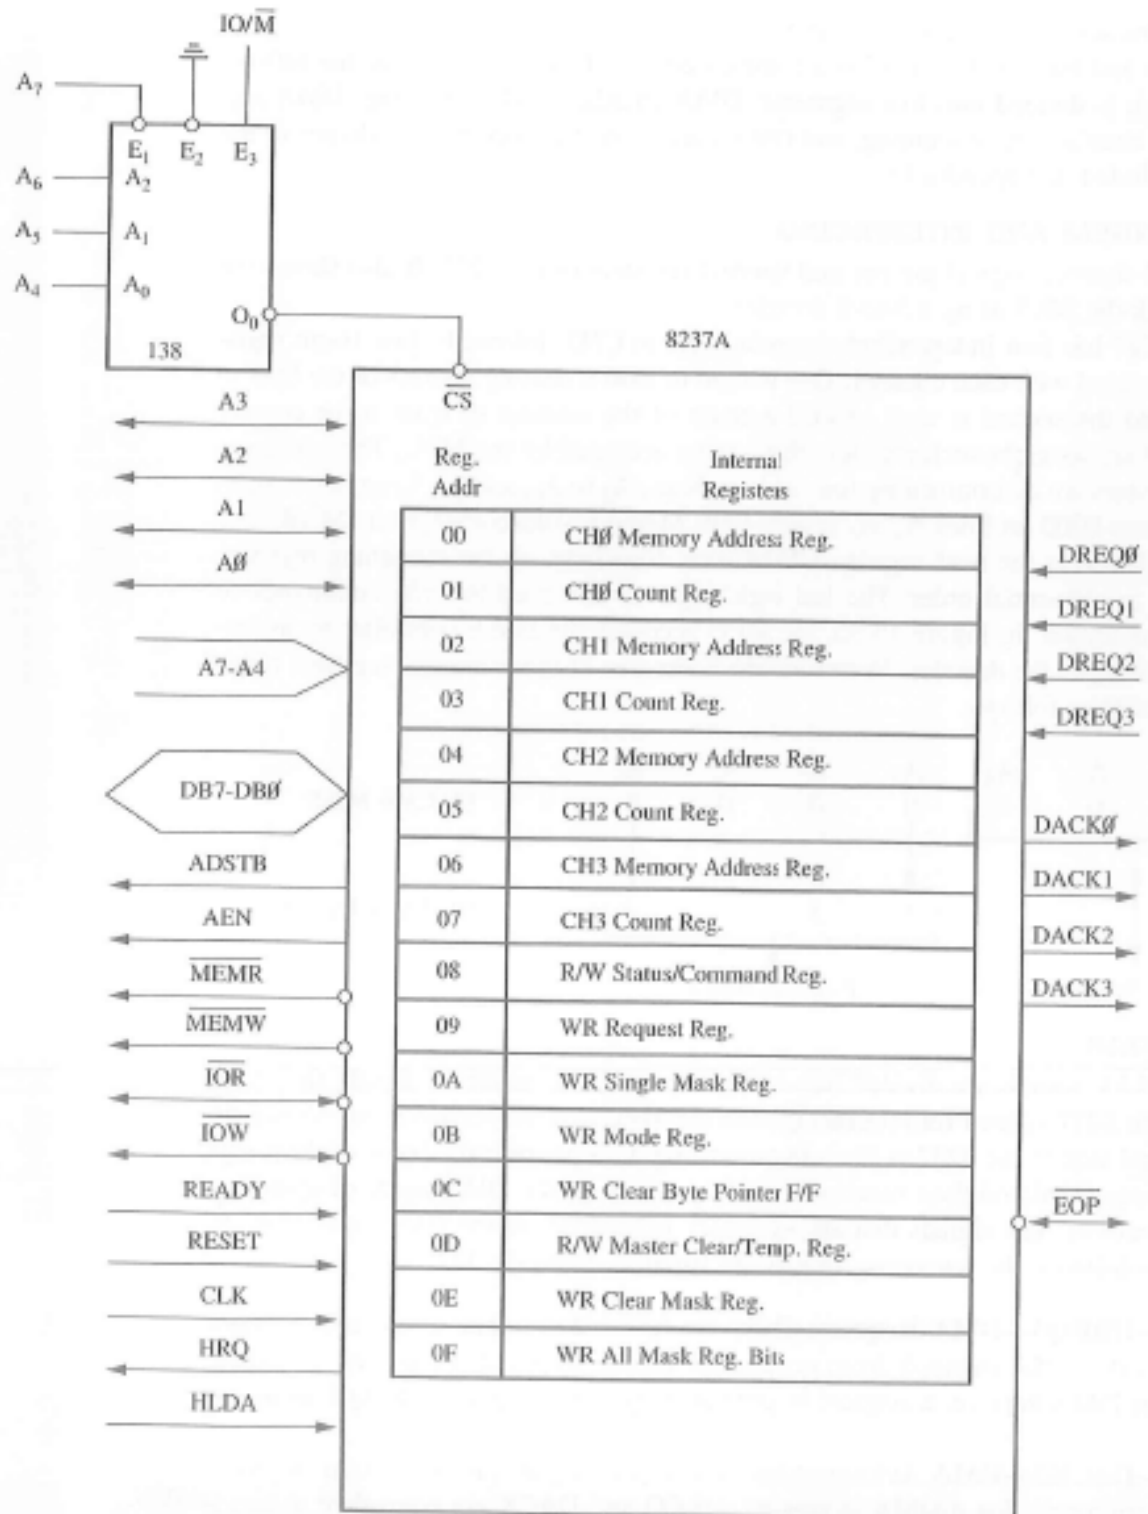

Figure 3.18 8237A – DMA Controller with Internal Registers
- ❖ Figure 3.18 shows a logical pin out and internal registers of the 8237.
- ❖ Figure 3.18 shows eight such registers that can be accessed by the MPU.
- ❖ In figure 3.18, the MPU accesses the DMA controller by asserting the signal Y_0 of the decoder.
- ❖ In figure 3.18, signals are divided into two groups:
Write initialization instructions for the DMA controller in figure 3.18 to meet the following specifications. Use the same port (register) address (00 to 0FH) as in figure 3.18.